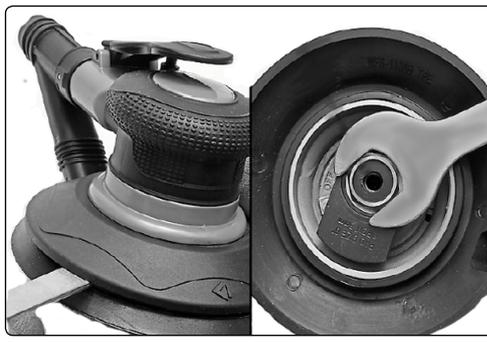

fig.2
4.3. Assembly (fig.2.)
- 4.3.2. Lock the spindle (fig.2.) with spanner